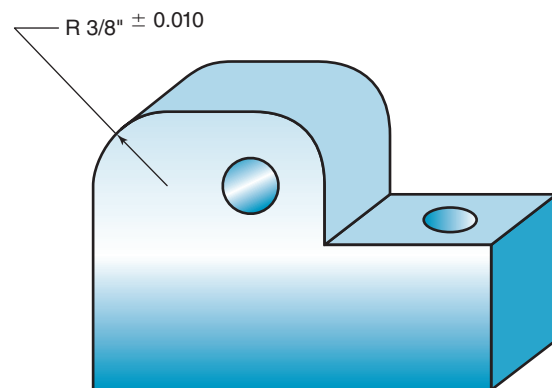

Figure 2-5 Problems 1 and 2, hinge bracket.
1. A hinge bracket requires milled corner radii (plural of radius), a rounded corner. The print calls for a $\frac{3}{8}$ -in. radius with an allowable tolerance of plus/minus 0.010 in. on the dimension. You have found a cutter that will cut a 0.275-in. radius. Can you use it for this job in Fig. 2-5?
2. What size range of radius cutters could be used for the hinge bracket of Fig. 2-5? In other words, what is the biggest and smallest radius that would be acceptable for this job?